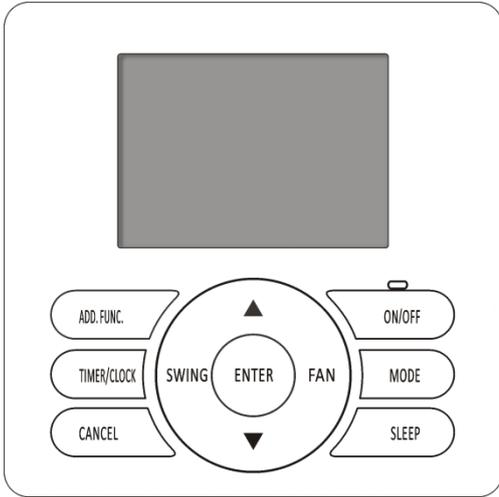
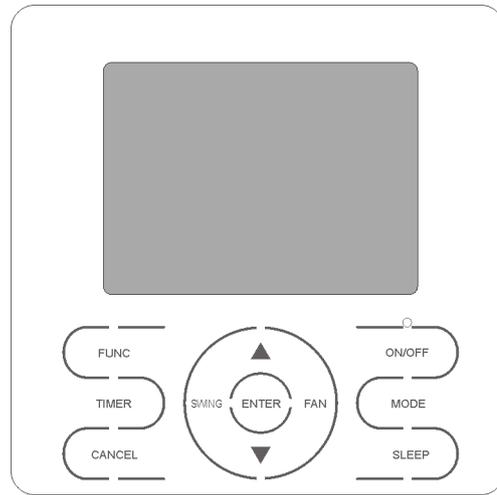

Fig.2 HS-WC01U/ HS-WC02U
Fig.3 YXE-D01U(E)
Fig.2 short wiring
Fig.3 output line
Pins of the OUT INPUT CN16 socket shown in the electrical wiring diagram of Fig 1 are tacitly approved to be in short circuit state under the factory state (an external short circuit plug shown as Figure 2).
- 1) When using the room card control, the user cuts off the short wire shown in Figure 2 and connects the red lines to the control switch (supplied by user), and the connecting wire should be 22AWG or above specification. The switch is closed under normal conditions and off under abnormal conditions.
- 2) When using the fire protection , the user cuts off the short wire shown in Figure 2 and connects the White lines to the control switch (supplied by user), and the connecting wire should be 22AWG or above specification. The switch is closed under normal conditions and off under abnormal conditions.
- 3) When using the ON/OFF function, the user cuts off the short wire shown in Figure 2 and connects the White lines to the ON/OFF control switch (supplied by user), and the connecting wire should be 22AWG or above specification. In normal conditions, the machine starts once the switch is closed and the machine shuts down once the switch is off.
Fig.2 short wiring (old)
Fig.3 main control board
Fig.2 short wiring (new)
3 pins of the OUT INPUT CN16 socket shown in the electrical wiring diagram of Figure 1 are tacitly approved to be in short circuit state under the factory state (an external short circuit plug shown as Figure 2), and the OUT INPUT CN16 socket of main control board is shown as Figure 3.
- 4) When using the room card control or fire protection , the user cuts off the short wire shown in Figure 2 and connects the red line and the black line to the control switch (supplied by user), and the connecting wire should be 22AWG or above specification. The switch is closed under normal conditions and off under abnormal conditions.
- 5) When using the ON/OFF function, the user cuts off the short wire shown in Figure 2 and connects the black line and the white line to the ON/OFF control switch (supplied by user), and the connecting wire should be 22AWG or above specification. In normal conditions, the machine starts once the switch is closed and the